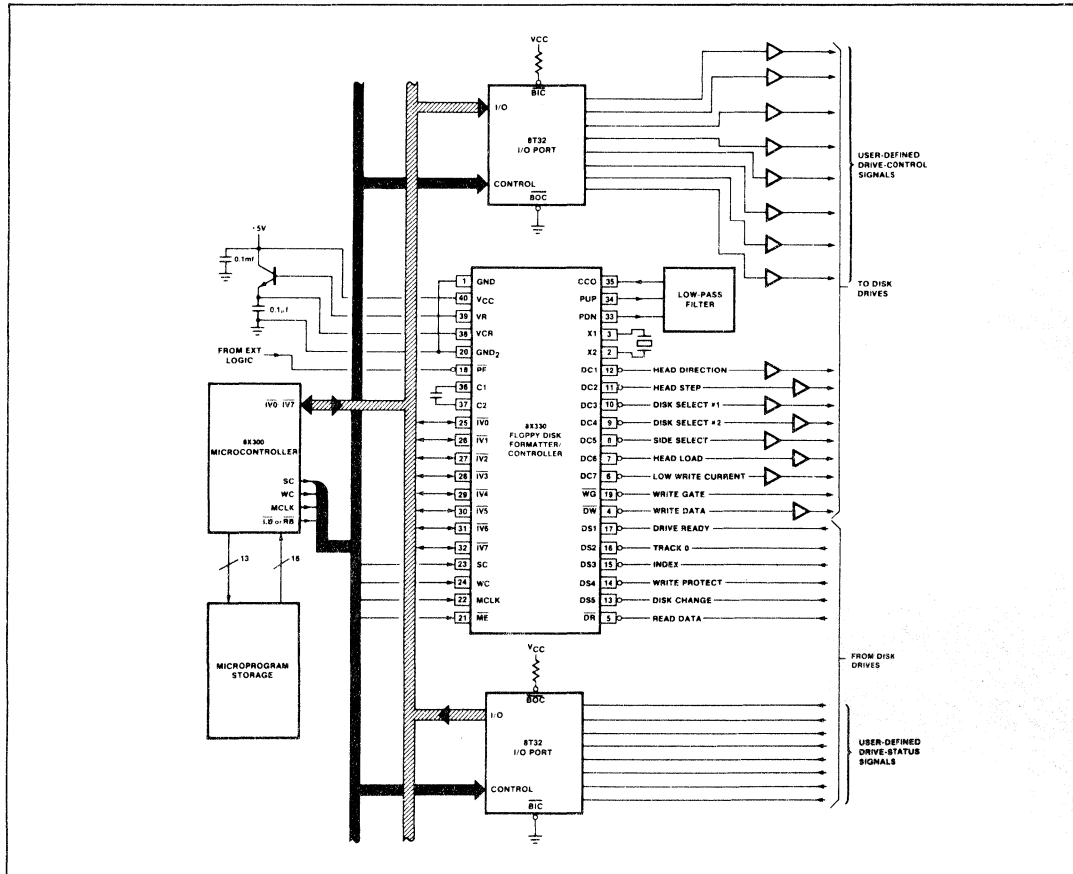
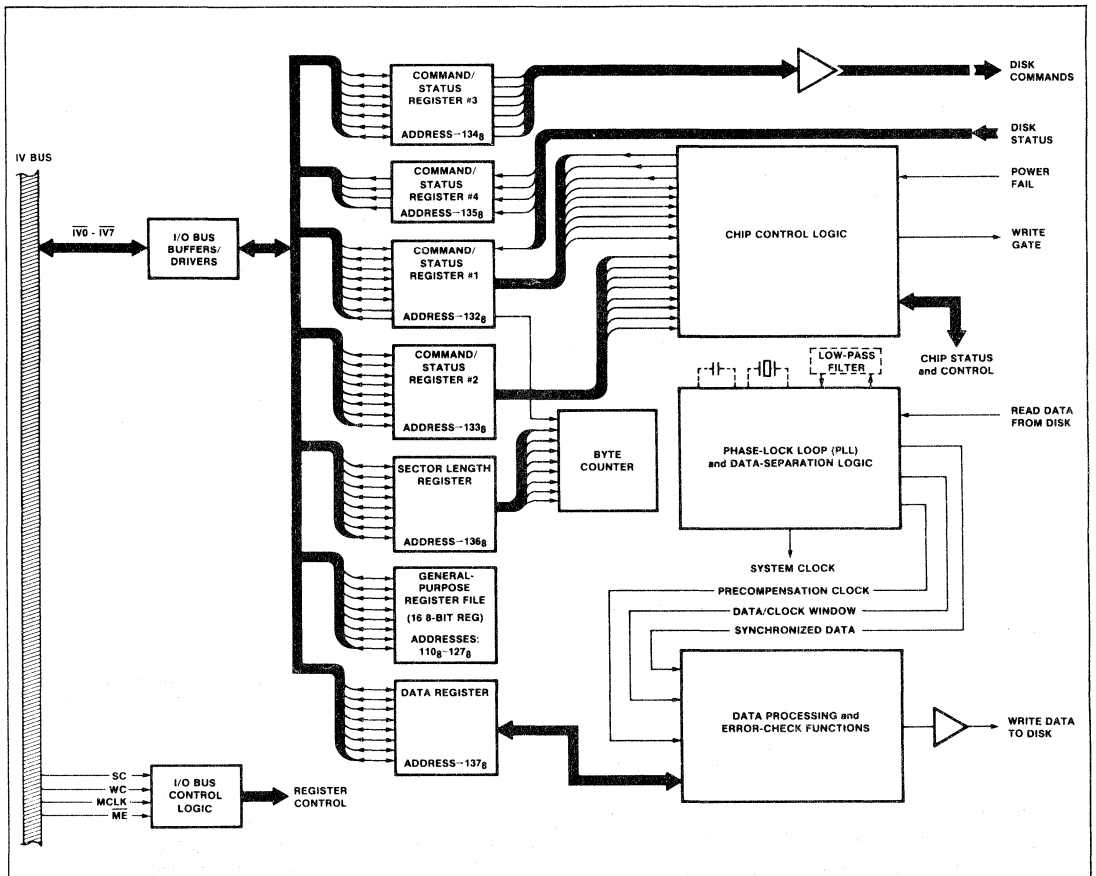

Figure 2. Typical Interface Using an 8X300 Microcontroller
Figure 3. An Expanded View of the 8X330/8X330 Interface
A typical floppy disk controller using an 8X300 microcontroller and the 8X330 is shown in Figure 2. The non-shaded portion of this particular configuration can service the command, status, and input/output requirements of two double-sided disk drives and, under software supervision, the system can read/write single-density (FM) or double-density (MFM/M2FM) codes. Interface requirements are simple—on one hand, consisting of the 8X300 microcontroller and, on the other, the two disk drives. All 8X330 control and data registers directly linked to the microprocessor interface (Figure 1) are addressable and appear to the 8X300 as simple I/O ports; a 13-bit address bus and a 16-bit instruction bus provide communications between the 8X300 and up to 8K of microprogram storage.
thus, the user can assign system functions to best suit a given application. As shown in Figure 2, all control lines except  $\overline{WG}$  are buffered to accommodate a reasonable distance between the controller and the disk media; the Write Gate, being a 40-milliampere output, requires no buffering.
As shown by the shaded part of Figure 2, the control and status lines can be expanded with peripheral hardware—the 8T32 (in this example) being only one method of implementation. Using this particular technique, one I/O port is totally dedicated to output control, whereas, the other port is totally dedicated to input status. With additional hardware and supporting software, the disk-drive system can be expanded without limit; however, from a point of being practical, five or six drives is sufficient for most applications. By using the programmable features of the 8X330, the user can emphasize and prioritize those system parameters that are most important—economics, reliability and/or speed.
As shown in Figure 2, the interface between the 8X330 and 8X330 consists of twelve (12) lines—IV0-IV7, SC, WC, MCLK, and ME; the Master Enable (ME) input (pin 21) is driven from either the LB (Left Bank) or RB (Right Bank) output of the 8X330. An expanded view of this interface is shown in Figure 3 and, as indicated, the 8X330 appears as a number of addressable registers (1108-1278 and 1328-1378) under input/output control of the 8X330. These registers are used for general-purpose storage, data-transfer operations, disk commands, disk status, and various control functions. Design-oriented information for these registers and other data-processing/logic functions of the 8X330 are described in the paragraphs that follow; in all of these registers, bit 0 is the Most Significant Bit (MSB).